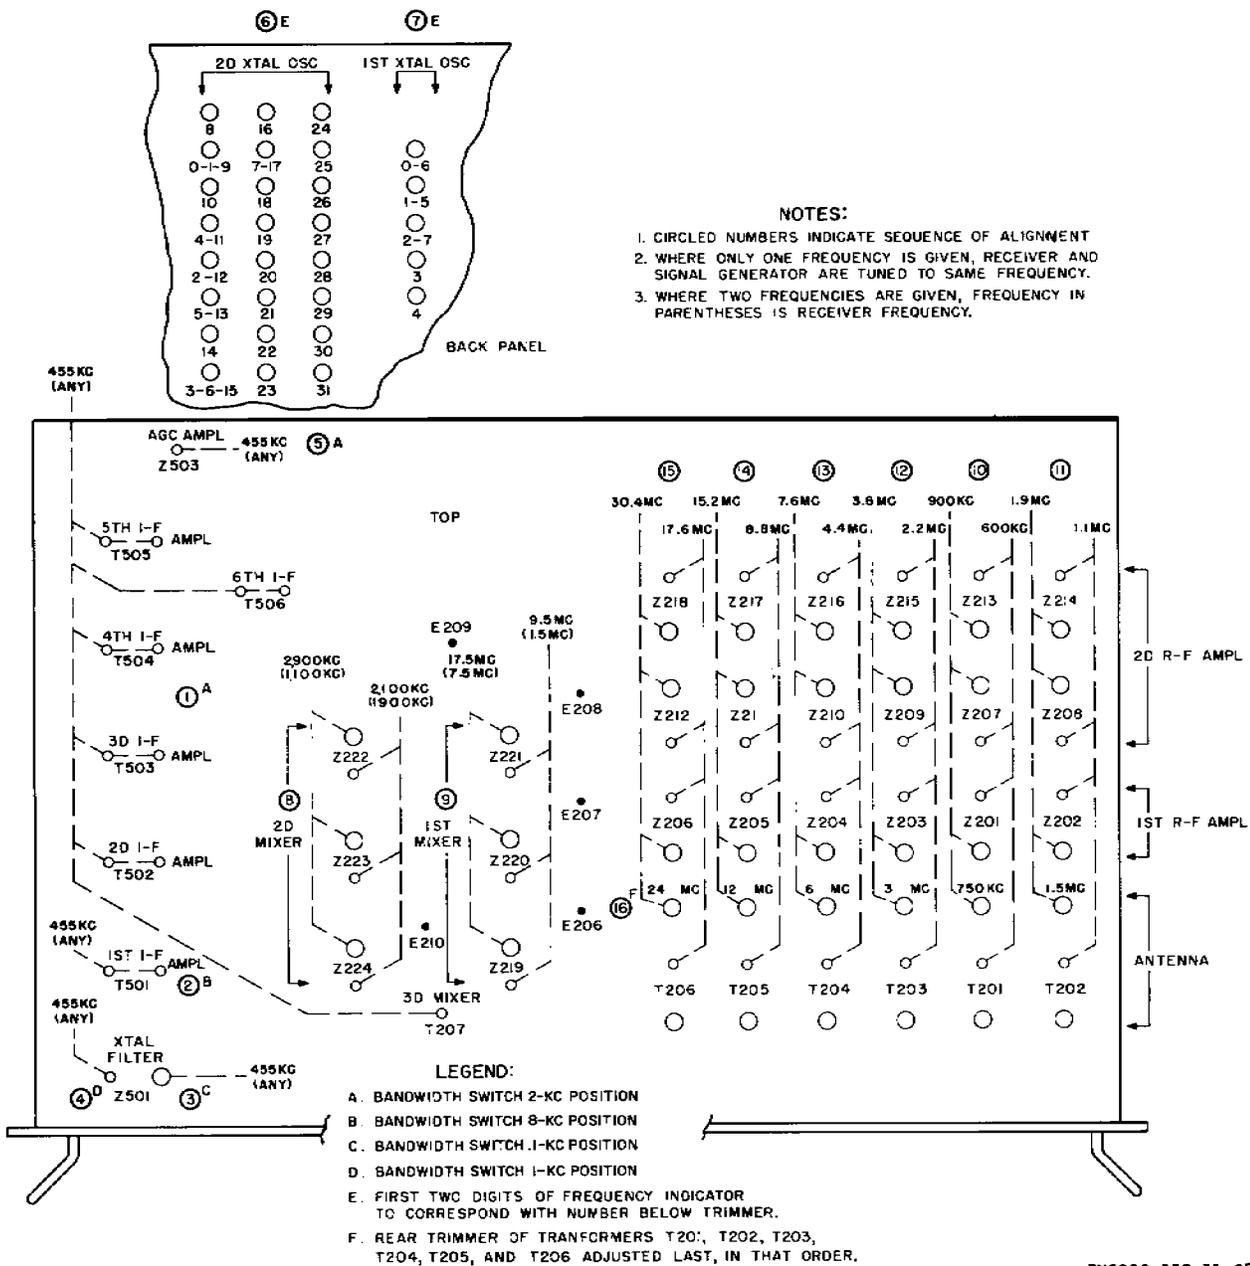

Figure 45. Alignment points.
### 76. Alignment of 455-Kc If. Stages (fig. 45)
*a.* Adjust the TS-505(\*)/U to measure negative dc volts and connect it between test point E209 (fig. 45) (grid of second mixer V204) and ground.
*e.* Screw the slug of T402 (fig. 23) out until only one peak reading on the TS-505(\*)/U can be obtained, while turning trimmer capacitor 31 (fig. 45 and 46) throughout its entire range.
### 79. Alignment of Second Variable If. Stage (fig 45)